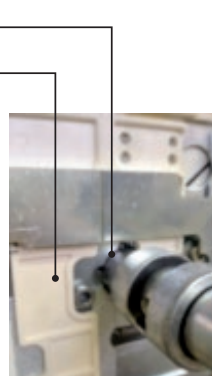

Figure 42.
- Fit the lever into window G (fig. 42) and use it to lever up the plastic protection N.